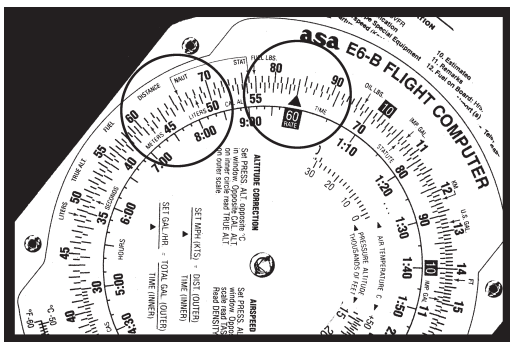

Figure 6
1. Line up the rate arrow ("something per hour") with 8.4 on the outer scale. See Figure 6.